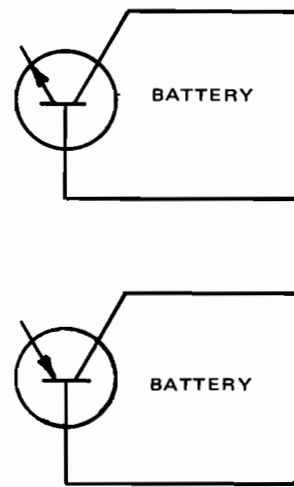

Fig. 13-3-9
13. Complete diagrams in Fig. 13-3-9 by sketching in battery symbol that would reverse bias B-C junction of two transistor circuits.